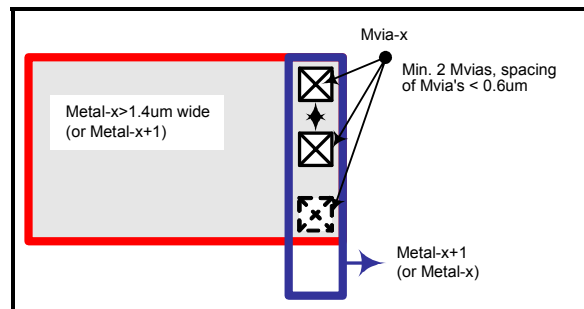

Figure 3. An example of double-cut vias for metal-x to metal-x+1 connection
1. When a small net connects to a big wire, double-cut vias must be used (Figure 3).